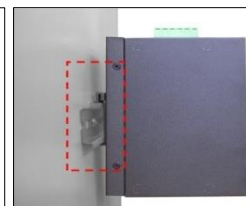

Figure 5
- Lightly pull down the bracket onto the rail as shown in Figure 5.